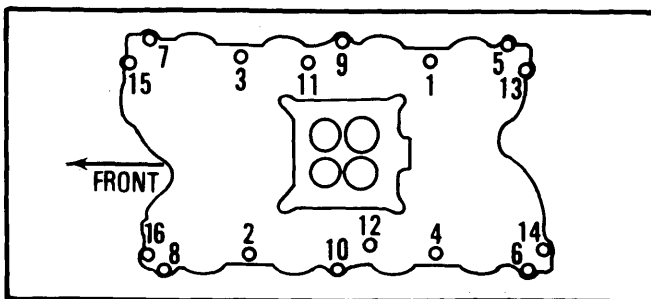

Fig. 1 Intake Manifold Tightening Sequence
3) Lower intake manifold on engine and check for correct positioning of gaskets and seals before installing attaching bolts and nuts. Install bolts and nuts, then tighten in sequence shown in Fig. 1.